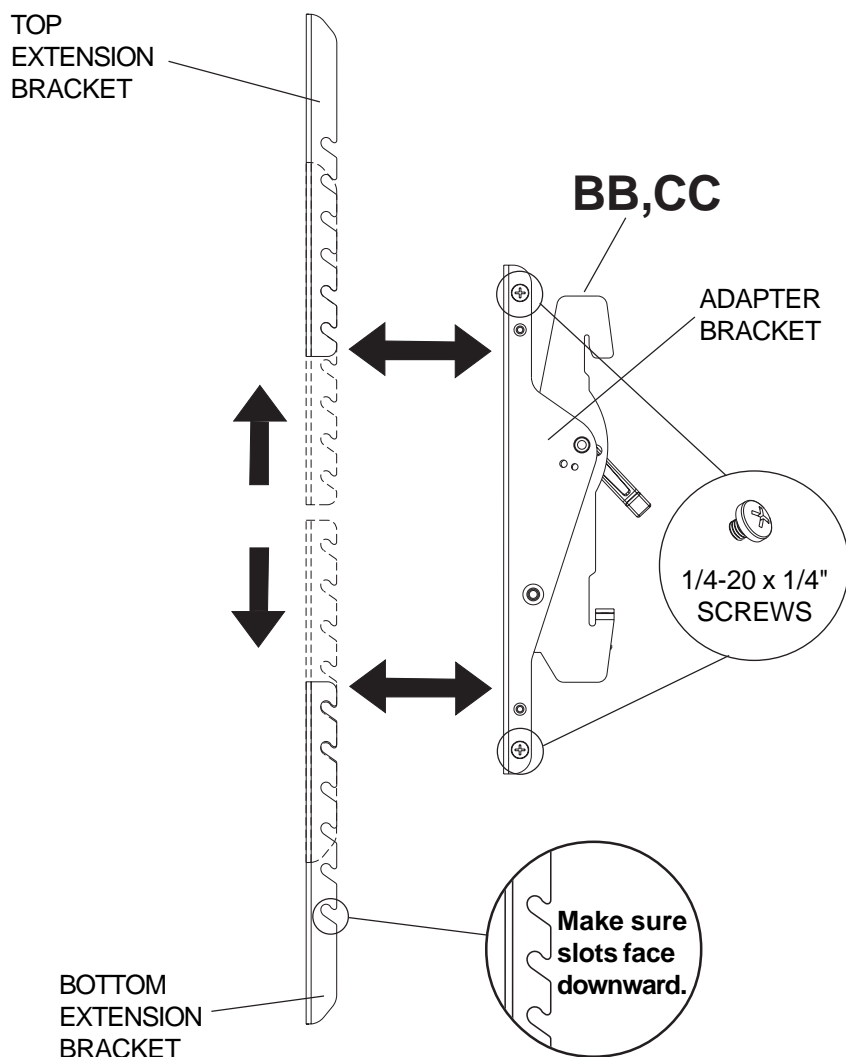
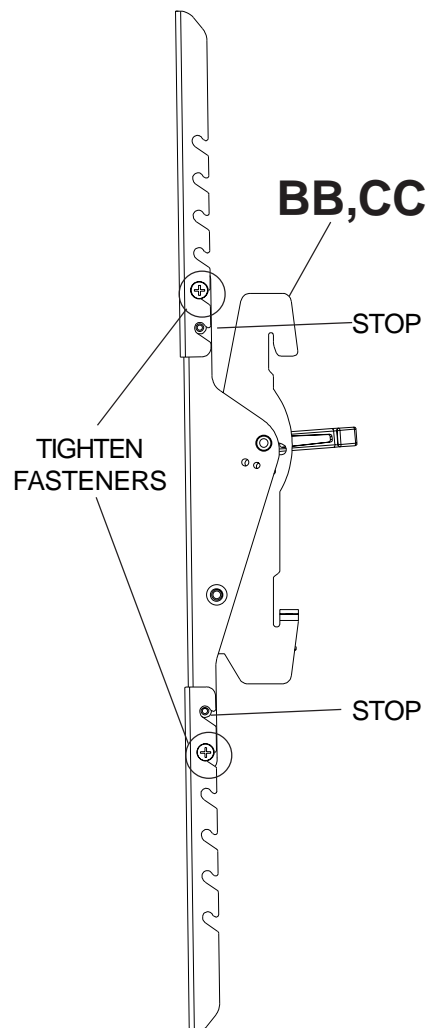

fig 1.1
fig 1.2
- 1 Loosen four 1/4-20 x 1/4" screws on each adapter bracket (**BB,CC**). Position extension brackets, **with slots facing downward**, onto adapter brackets (**BB,CC**) at the appropriate position to accommodate your screen as shown in Figure 1.1. Securely tighten all 1/4-20 x 1/4" screws as shown in figure 1.2.
NOTE: In all bracket extension positions, stops and 1/4-20 x 1/4" screws must be engaged in slots as shown in figure 1.2.